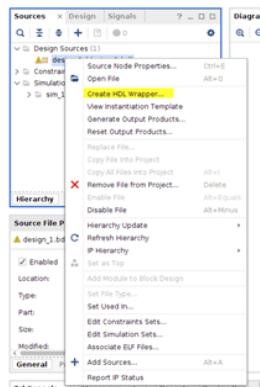

Figure 27: Create HDL Wrapper
- In the Hierarchy window, click on the "Sources" tab. Right-click on the design and select "Create HDL Wrapper" (Figure 27)